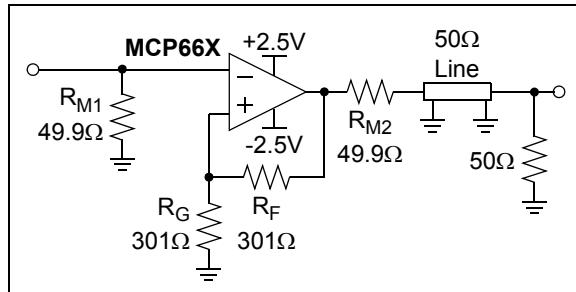

FIGURE 4-10: 50Ω Line Driver.
Differential Gain (DG) and Differential Phase (DP) refer to the non-linear distortion produced by a NTSC (or PAL) video component. Table 1-2 and Figure 2-34 show the typical performance of the MCP661, configured as a gain of +2 amplifier (see Figure 4-10), when driving one back-matched video load (150Ω , for 75Ω cable). Our tests use a sine wave at NTSC's color sub-carrier frequency of 3.58 MHz, with a $0.286V_{P-P}$ magnitude. The DC input voltage is changed over a +0.7V range (positive video) or a -0.7V range (negative video).
Figure 4-10 shows the MCP661 driving a 50Ω line. The large output current (e.g., see Figure 2-18) makes it possible to drive a back-matched line (R_{M2} , the 50Ω line and the 50Ω load at the far end) to more than $\pm 2V$ (the load at the far end sees $\pm 1V$). It is worth mentioning that the 50Ω line and the 50Ω load at the far end together can be modeled as a simple 50Ω resistor to ground.